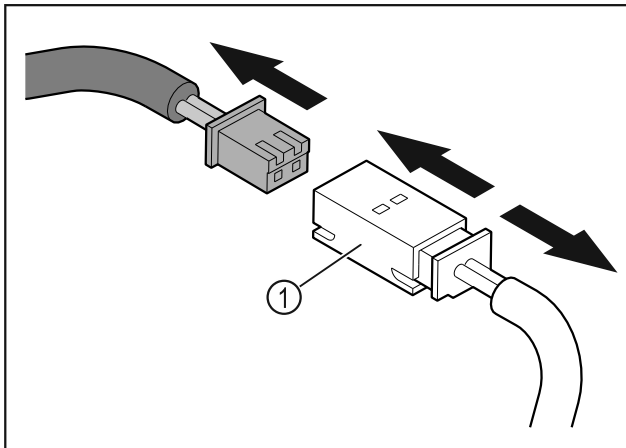

Fig. 10
- ▶ Disconnect the plug and the plug coupling Fig. 10 (1).